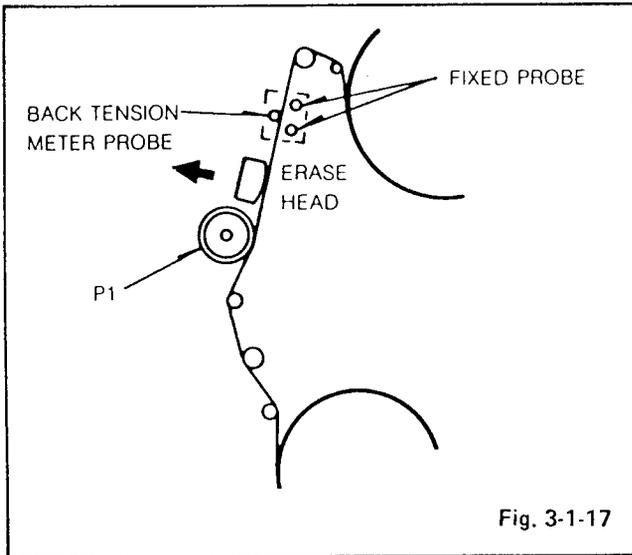

Fig. 3-1-17
- Measure the tension of the back tension probe on the condition that is touched by the tape as shown in Fig. 3-1-17.